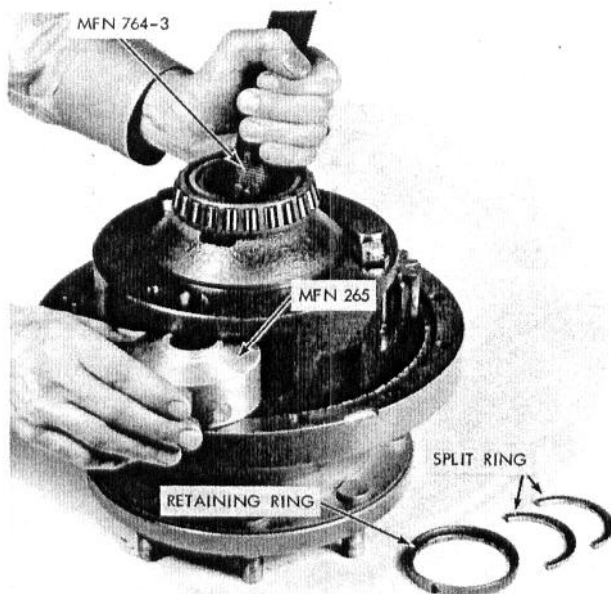

Fig. 44 - Planetary Carrier Puller MFN 265Y & MFN 764-3 Installation or Removal
- a. Slide the nut, MFN 265, thru the opening in the planetary carrier. Refer to Fig. 44.